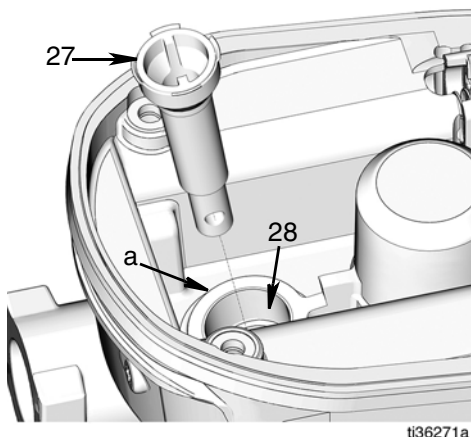

FIG. 32
5. Remove trip rod (27) from housing (FIG. 32).
6. Use a pick to remove seal (28) from the bottom of the trip rod hole (a) (FIG. 32).